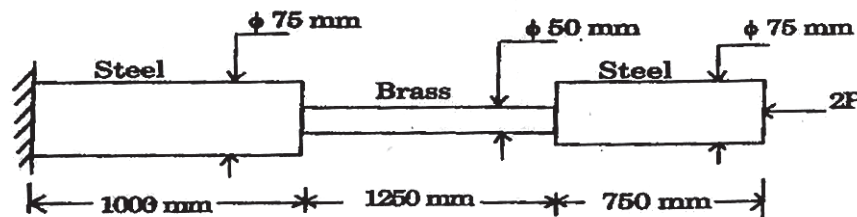

Fig. 1
1. (a) A composite bar as shown in Fig. 1 is loaded by various axial forces. Determine largest value of force  $P$  such that stresses in the steel do not exceed 150 Mpa and that in brass does not exceed 75 Mpa. Take  $E_s = 200$  GPa.  $E_b = 75$  GPa. Also find total deformation of composite bar. [6]